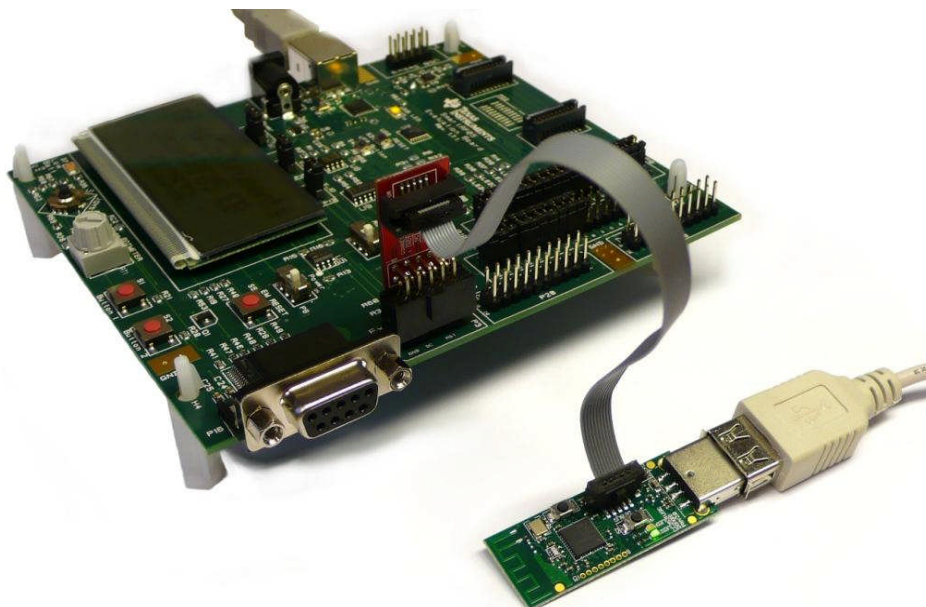

Figure 1 - CC2531 USB Dongle connected to SmartRF05EB
4. Connect the USB Dongle to the ExtSoC Debug header (P3) on SmartRF05EB with the supplied 10 pin cable and adapter board (see Figure 1). Make sure pin 1 on the dongle is connected to pin 1 on P3. This cable connects the debug interface and GND between the two devices; however the USB Dongle is not powered through this cable.
Use the supplied USB extension cable to connect the USB Dongle to the PC (see Figure 1).